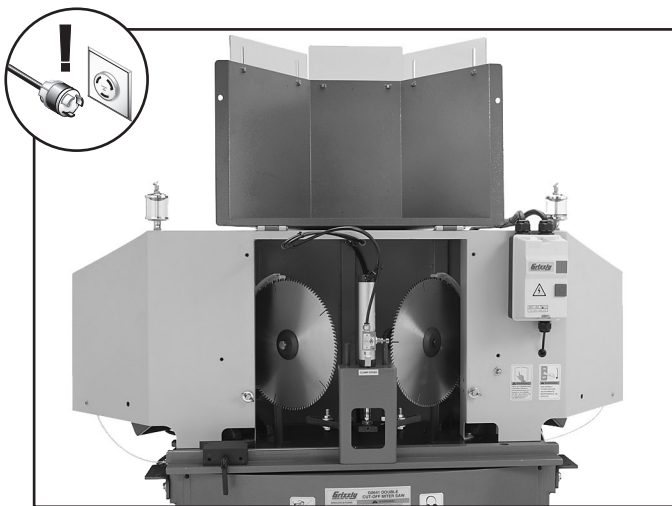

Figure 20. Guards removed to access blade arm assemblies and motors.
2. Raise the front guard up, and remove the inner blade guard to access the blade arm assemblies and motors (see **Figure 20**).